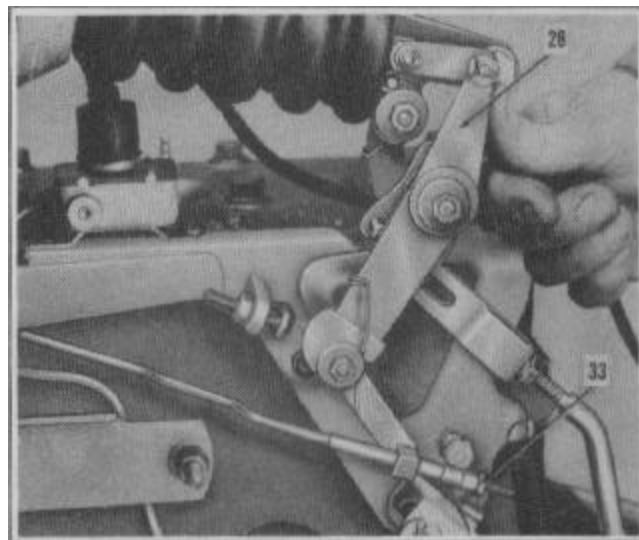

FIGURE 2
If it is found necessary to change the "Valve Rod Adjustment" recheck the "Threaded Sleeve Rod Adjustment", adjust the threaded sleeve (33) Figure 2, until the vacuum cylinder piston is 1/2" from its extreme forward position.